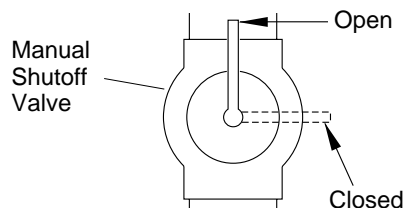

Figure 38 - Manual Shutoff Valve
1. Close manual shutoff valve (see Figure 38).
1. Open manual shutoff valve (see Figure 38).